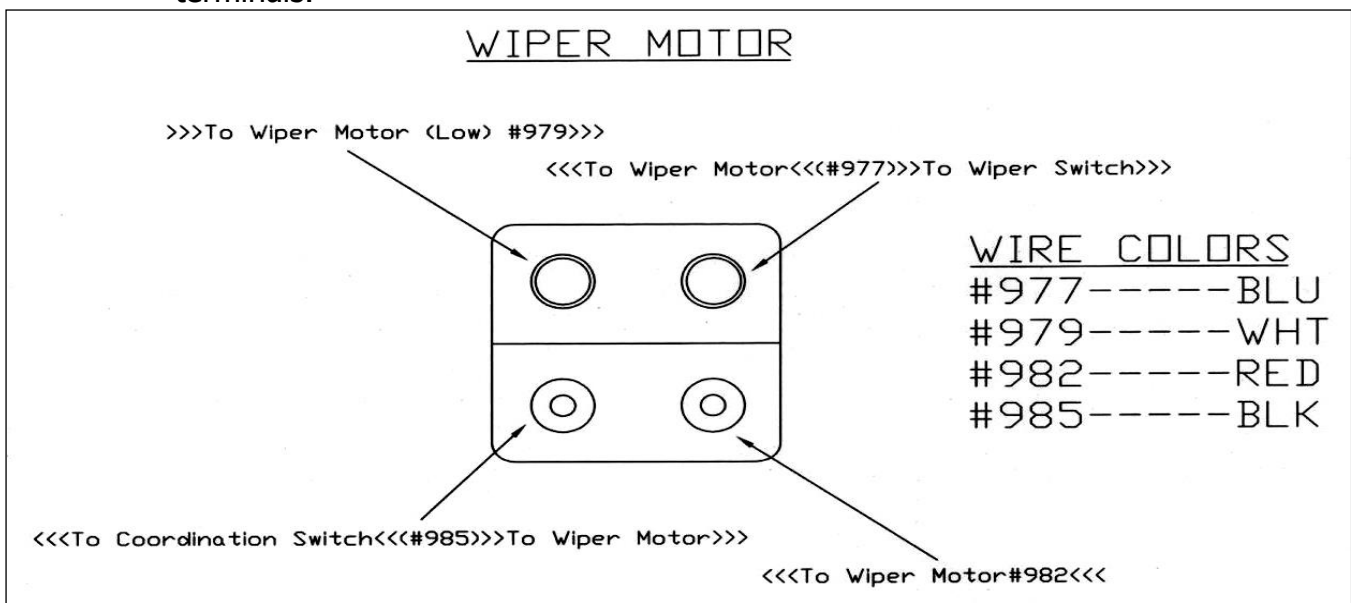

Figure 7-23 Wiper Motor Plug
7.12.3 The connections for the Wiper Motor are illustrated in **Figure 7-23**. Be sure to note the cavities for wire #979 and #977 are female and for #985 and #982 are male bullets.